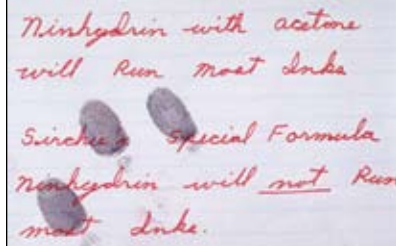

FIGURE 2—Ink does not run using No. 201C or No. NSI609.
- **No. NSI609 with NOVEC-HFE7100**—*WILL NOT* cause inks to run (Fig. 2).